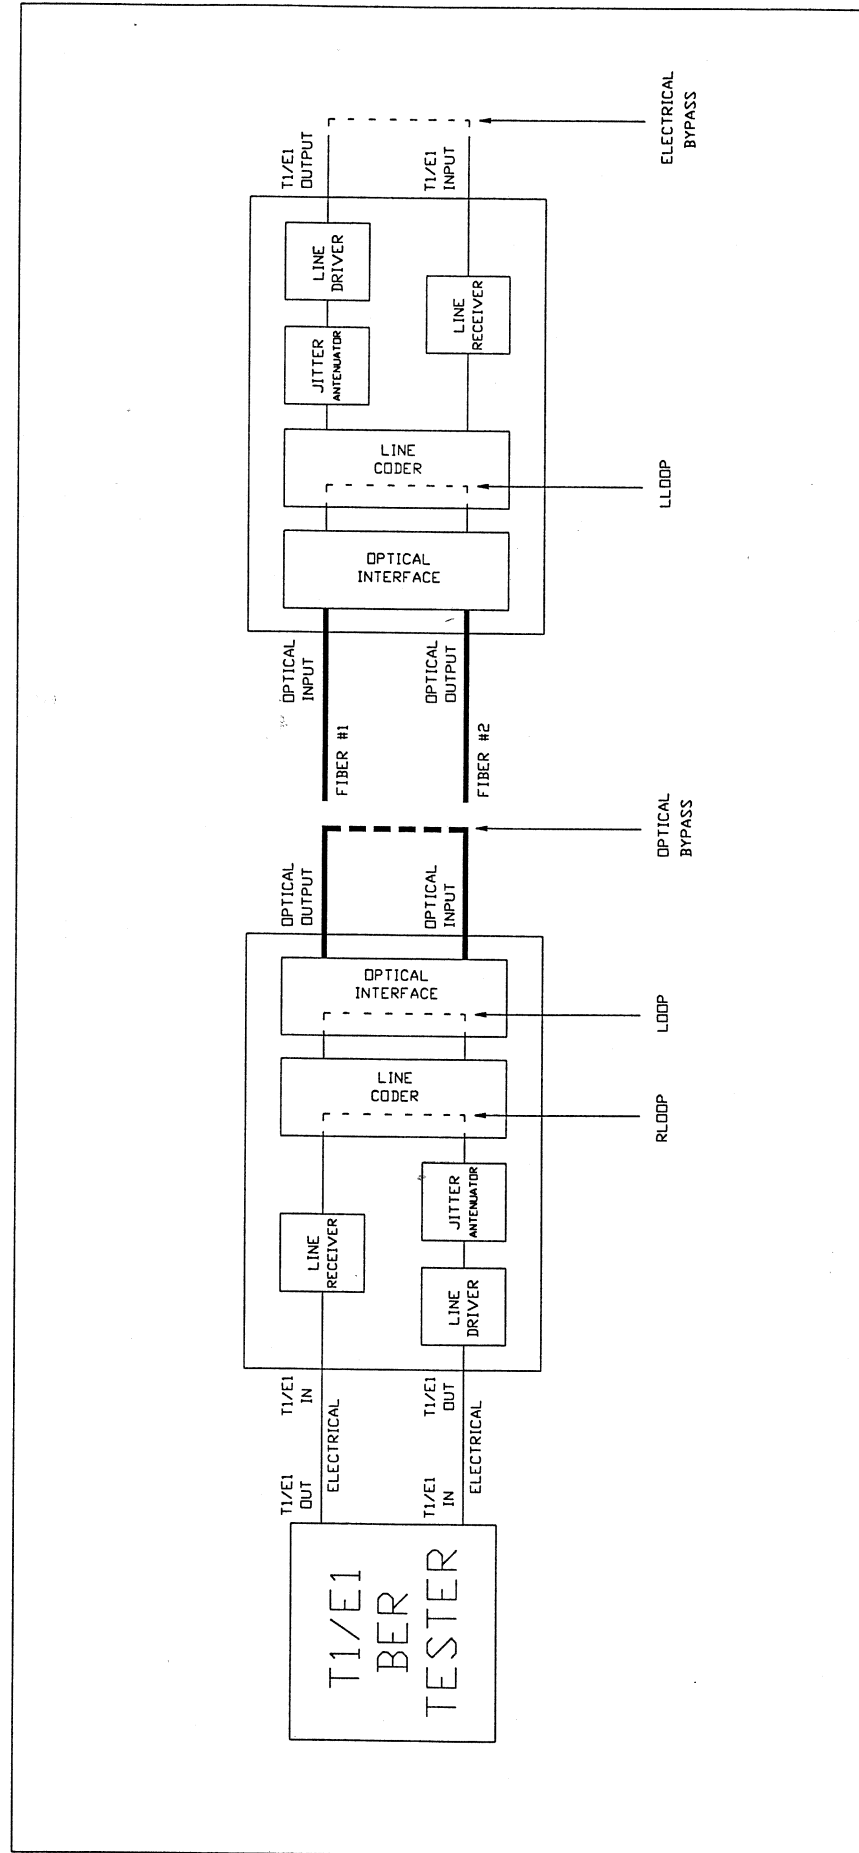

FIGURE 3. SYSTEM TROUBLESHOOTING
1. Connect T1/E1 Bit Error Rate Tester (BERT) to the system (fig.3). Set RLOOP switch to ON position (Table 2). This will verify the electrical connection to the system, operation of line receiver, driver and jitter attenuator. If system operates properly, set RLOOP to OFF position.